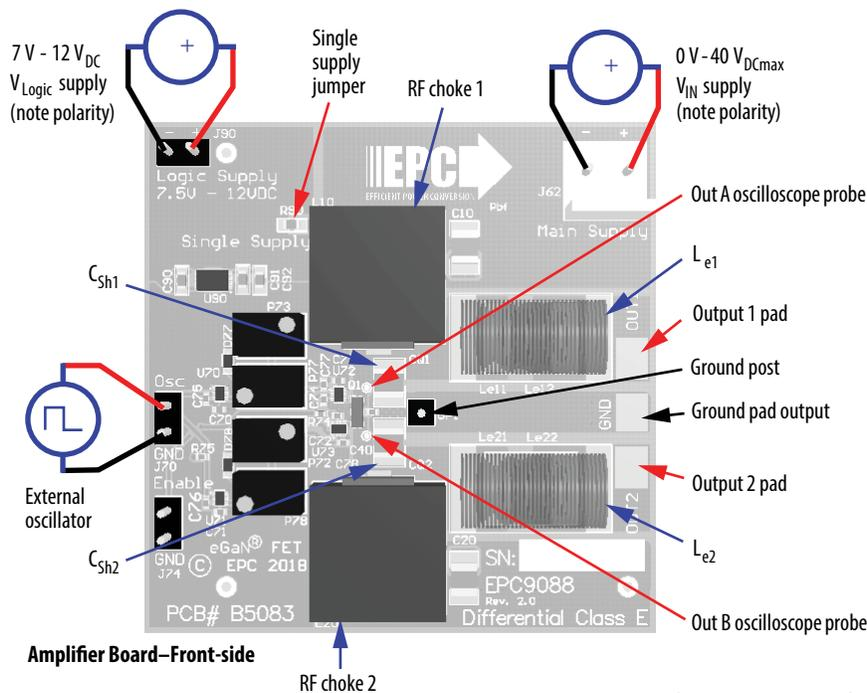

Figure 5: Proper Connection and Measurement Setup for the EPC9088 Amplifier Board.
2. With power **off**, connect the **main** input power supply bus to J62 as shown in figure 5. Note the polarity of the supply connector. Set the voltage to 0 V.
3. With power **off**, connect the logic input power supply bus to J90 as shown in figure 5. Note the polarity of the supply connector. Set the voltage to between 7 V and 12 V.
**NOTE.** When measuring the high frequency content switch-node, care must be taken to avoid long ground leads. An oscilloscope probe connection (preferred method) has been built into the board to simplify the measurement of the Drain-Source Voltage (shown in figure 5). The choice of oscilloscope probe needs to consider tip capacitance where this will appear in parallel with the shunt capacitance thereby altering the operating point of the amplifier.